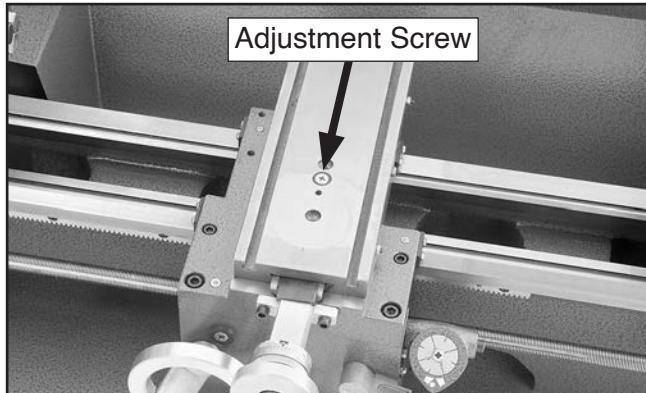

Figure 79. Cross slide backlash adjustment screw.
2. Remove the compound slide from the cross slide, then loosen or tighten the adjustment screw shown in **Figure 79** until you are satisfied with the amount of backlash.